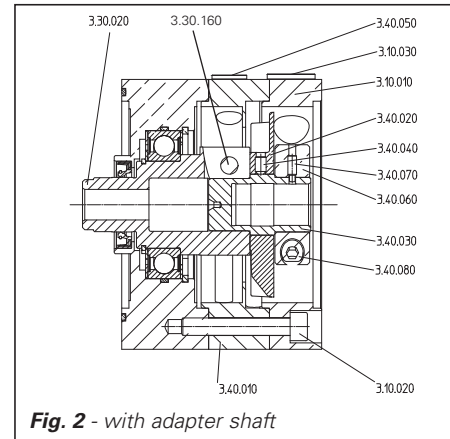

Fig. 2 - with adapter shaft
2.2 Fan mounting for units with adapter shaft (Fig. 2)